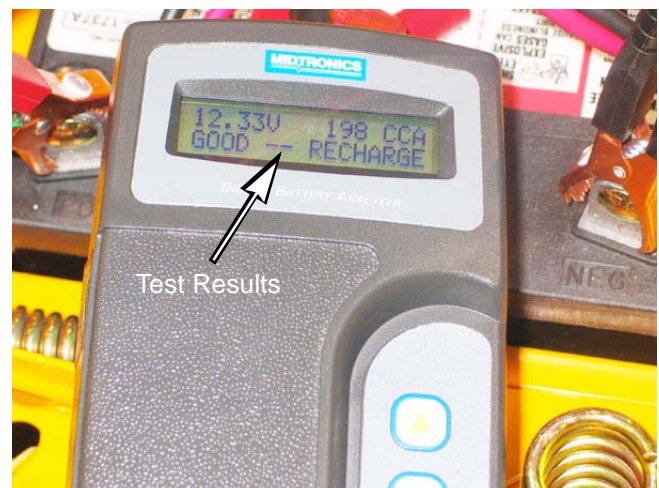

Figure 7.52
4. Read the display of the tester. The tester's display will indicate if the battery passed or not. See Figure 7.52.